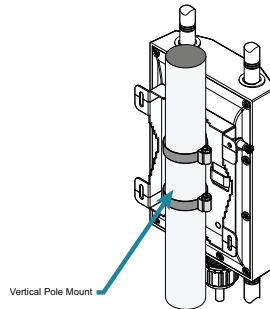

Figure 4. Vertical Pole Mount
- Wrap the hose straps around the vertical mounting pole and insert the end into the strap lock. Tighten the strap locks to secure the unit to the pole (as shown in Figure 4).